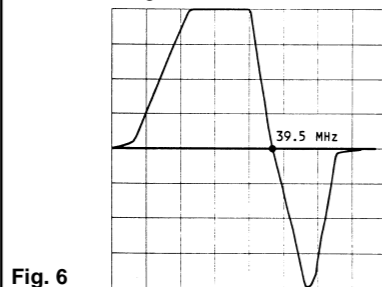

Fig. 6
3. Adjust T106 (AFC COIL) for a waveform as shown in Fig.6.